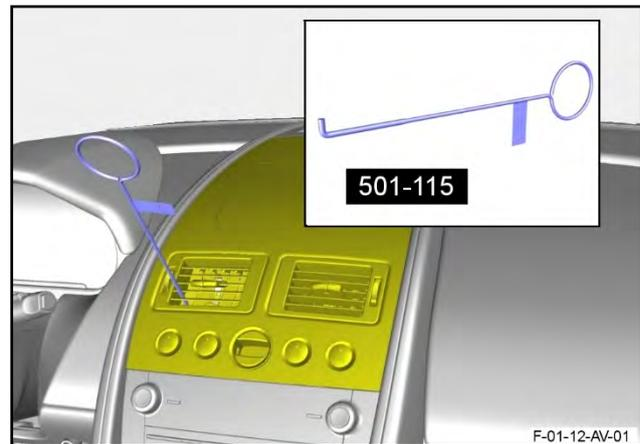

Figure 25
34. Use the special tool to release the veneer bezel for the Instrument Panel (IP) (refer to Figure 25).